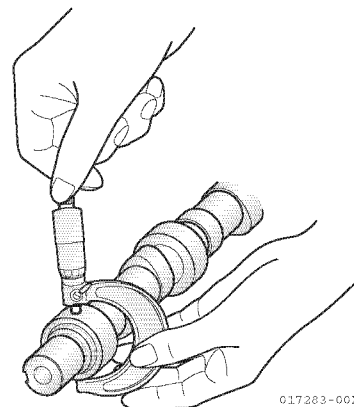

Figure 5-116
- Measure the camshaft outside diameter with a micrometer (**Figure 5-116**). The oil clearance shall be calculated by subtracting the measured camshaft outside diameter from the inside diameter of the camshaft bearing or bushing. The camshaft bushing at gear case side is measured with a cylinder gauge after insertion to the cylinder (**Figure 5-116**). Replace if they exceed the limit or are damaged.